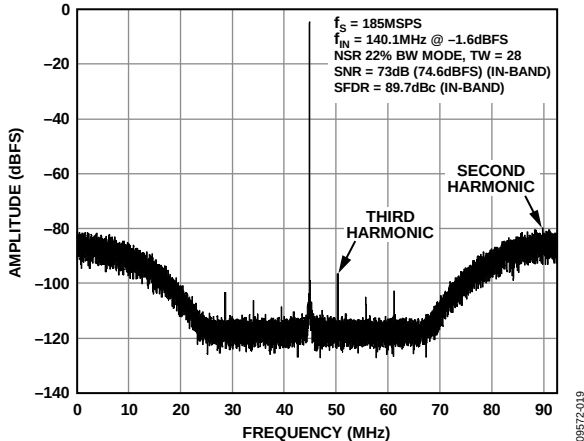

Figure 19. Typical FFT, AD6657 with NSR Enabled
10. Click the disk icon within the **Graph** window to save the performance plot data as a .csv formatted file. See Figure 19 for an example.